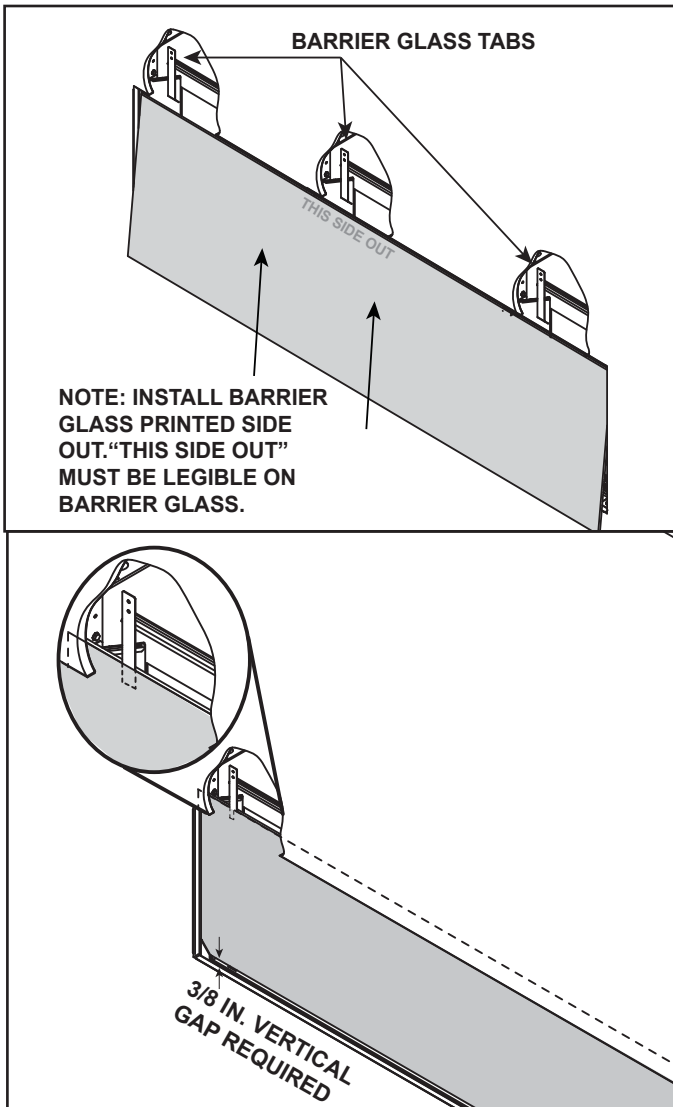

Figure 11.2. Replace Barrier Glass - Clean Face Finish
2. Tilt glass and slide glass between finishing material and barrier glass tabs. See Figure 11.2.